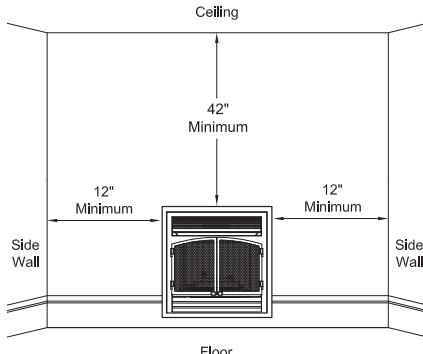

Figure 5 - Minimum Clearance for Combustible to Wall and Ceiling
- Clearance from the side of the fireplace to any combustible material and wall should not be less than 12" (see Figure 5).